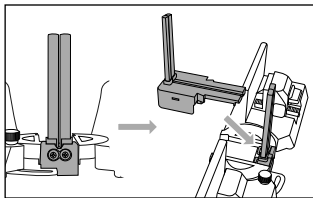

Fig. 6
- ◆ Insert cutting guide element A **9** from above into the recess provided (see fig. 6). Cutting guide element A **9** is not initially firmly in place.
- ◆ Insert cutting guide element B **10** from above into the recess provided until it clicks into place (see fig. 6).